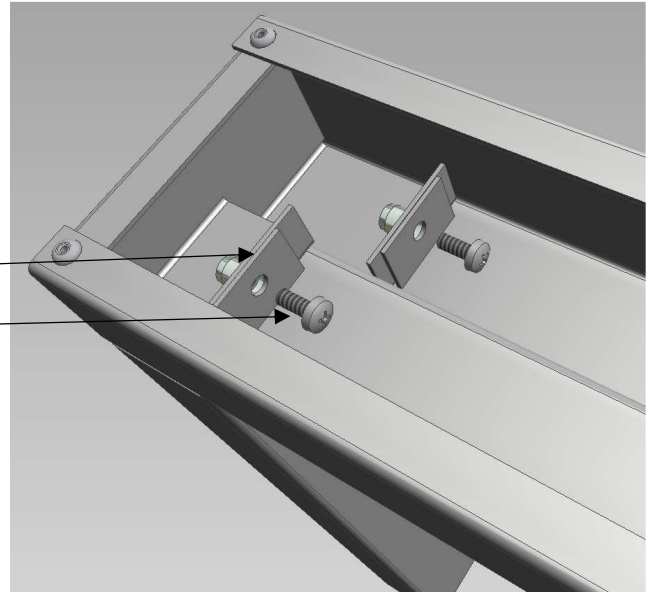

Fig 2
- Once the jamb locating tabs are through the holes in the frame head and using the M5 dome head screws provided fix the jambs to the head. Fig 2